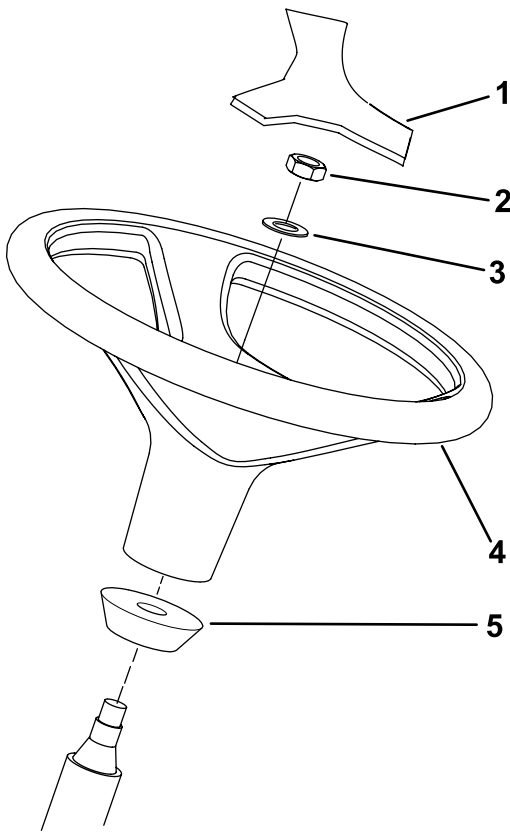

Figure 13
- 1. Remove the steering wheel from the shipping skid (Figure 13).
Note: Ensure that the foam collar remains on the steering shaft (Figure 13).
3. Slide the steering wheel and washer onto the steering shaft (Figure 13).
5. Mount the cover to the steering wheel (Figure 13).